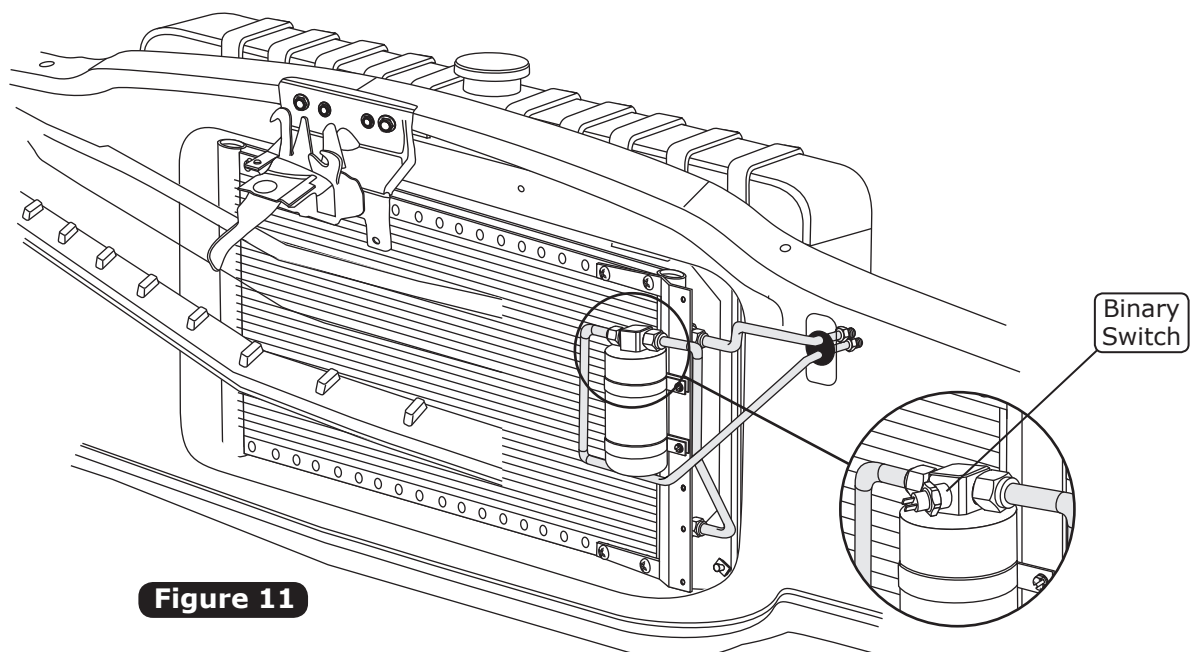

Figure 11
1. Install the binary switch onto the drier as shown in Figure 11, below.